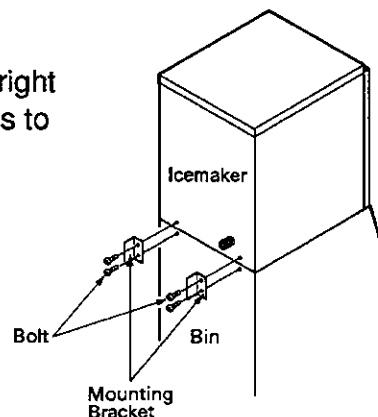

Fig. 8
- 4) Secure the icemaker to the Storage Bin, by using the two mounting bracket and the four bolts provided. See Fig. 8